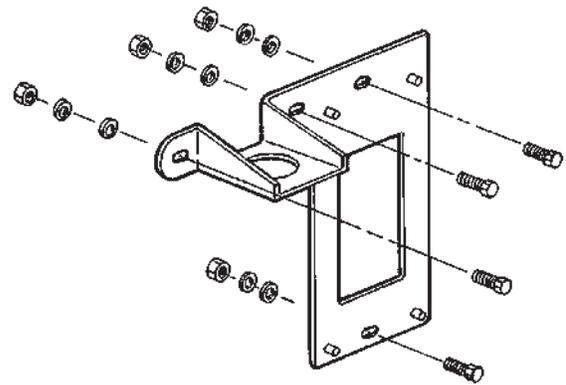

FIGURE 19
3. Secure the bracket to the mounting surface using appropriate length of 5/16 in. (8 mm) bolts with flat washers, lockwashers, and nuts. See Figure 19.